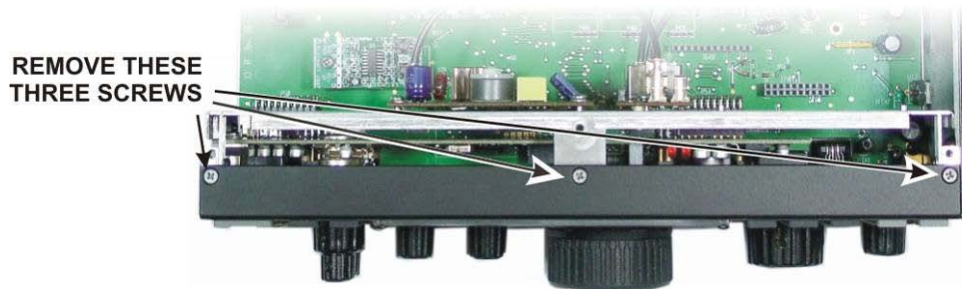

Figure 7. Removing Front Panel Mounting Screws.
Remove the three screws securing the top of the front panel assembly as shown in Figure 7.
Before continuing on with the next step, be sure you have removed the three top Front Panel Assembly screws shown in Figure 7. You may bend and damage the front panel or shield assemblies if the screws are not removed!
- Fasten the top of the front panel assembly with three 4-40 3/16" (4.8 mm) black flat head screws (see Figure 7 on page 15).